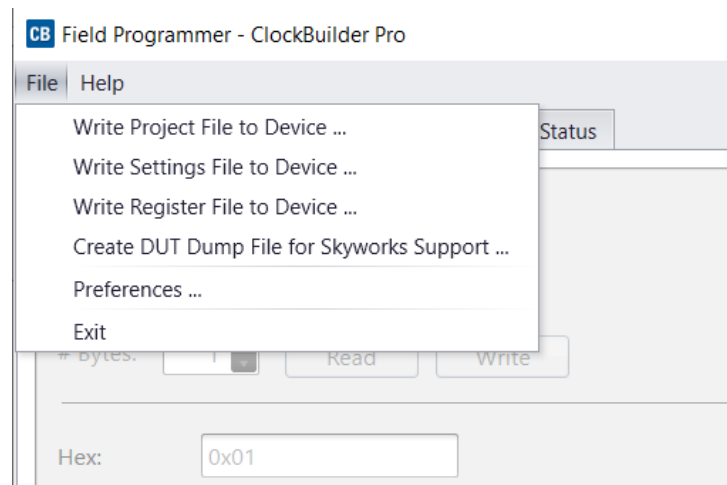

Figure 45. Write New Plan to Device (EVB GUI)
- b. If the IO_VDD_SEL bit is not correct, change the value and write the new value to the device (see Figure 45).